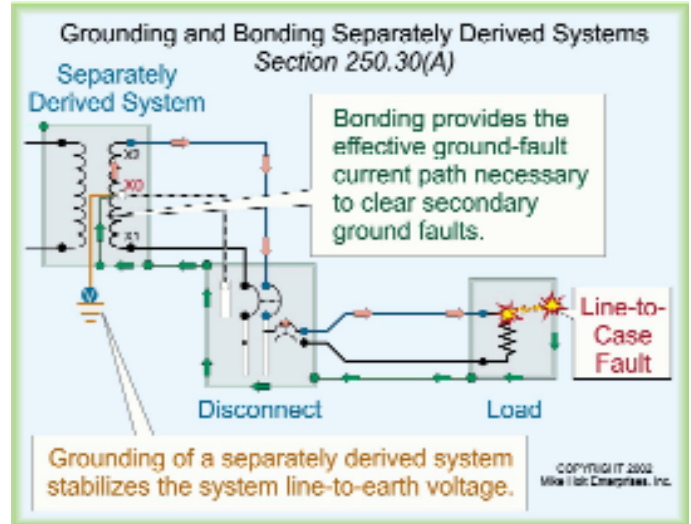

Figure 250-73
- (A) **Grounded Systems.** Separately derived systems that operate at over 50V [250.20(A) and 250.112(I)] shall comply with the bonding and grounding requirements of 250.30(A)(1) through (A)(6).
**AUTHOR'S COMMENT:** Bonding the metal parts on the secondary of the separately derived system to the secondary grounded (neutral) terminal ensures that dangerous voltage from a ground fault on the secondary can be quickly removed by opening the secondary circuit's overcurrent protection device [250.2(A)(3)]. In addition, separately derived systems are grounded to stabilize the line-to-earth voltage during normal operation [250.4(A)(1)]. Figure 250-73
- (1) **Bonding Jumper (Neutral-to-Case Connection).** To provide the effective ground-fault current path necessary to clear a ground fault on the secondary side of the separately derived system, the metal parts of electrical equipment shall be bonded to the grounded (neutral) terminal of the separately derived system. The bonding